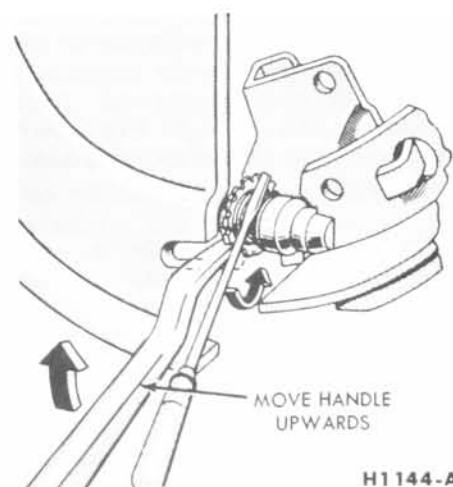

FIG. 8—Backing Off Brake Adjustment
2. Remove the drum. If the drum will not come off, insert a narrow screwdriver through the brake adjusting hole at the inner side of the brake carrier plate, and disengage the adjusting lever from the adjusting screw. While holding the adjusting lever away from the screw, back off the adjusting screw with the brake adjusting tool (Fig. 8). **Be very careful not to burr, chip, or damage the notches in the adjusting screw; otherwise the self-adjusting mechanism will not function properly.**
2. Remove the hub cap and wheel. Remove the three Tinnerman nuts and remove the brake drum. If the drum will not come off, insert a narrow screwdriver through the brake adjusting hole in the carrier plate, and disengage the adjusting lever from the adjusting screw. While holding the adjusting lever away from the adjusting screw, back off the adjusting screw with the brake adjusting tool (Fig. 8). **Be very**